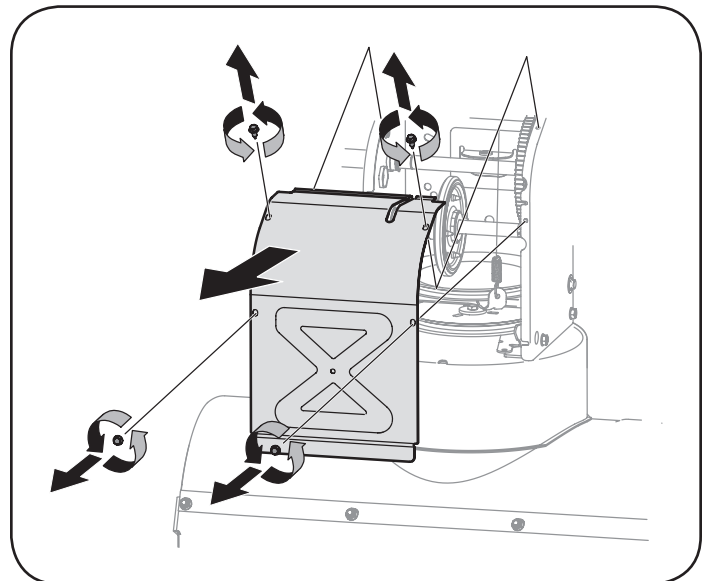

Figure 30
5. Remove the frame cover from the underside of the snow thrower by removing four self-tapping screws which secure it. See Figure 30.